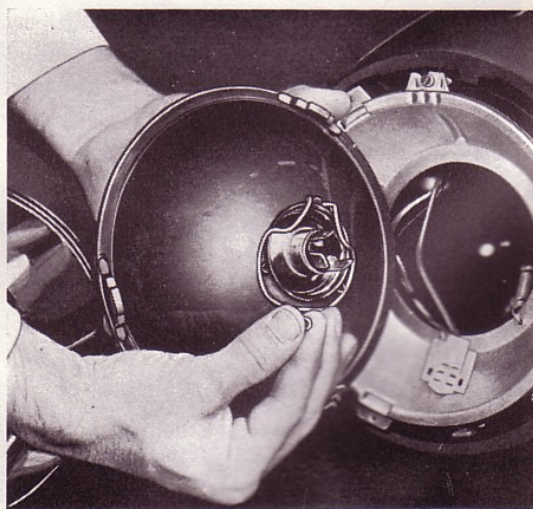

Fig. 84. Removing the bulb retaining ring
2. Remove the spring retaining the bulb holder on the insert and lift out the holder, see Fig. 84. Then remove the old bulb.